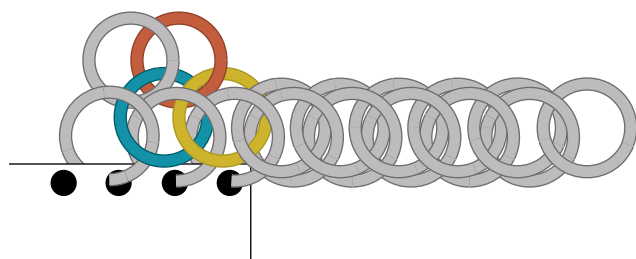

FIG. 5
5. Thread 1 open (orange) jump ring through the second and first linking (blue/yellow) jump rings on the base chain from the front using a TE connection (page 22) (FIG. 5). Close the jump ring.